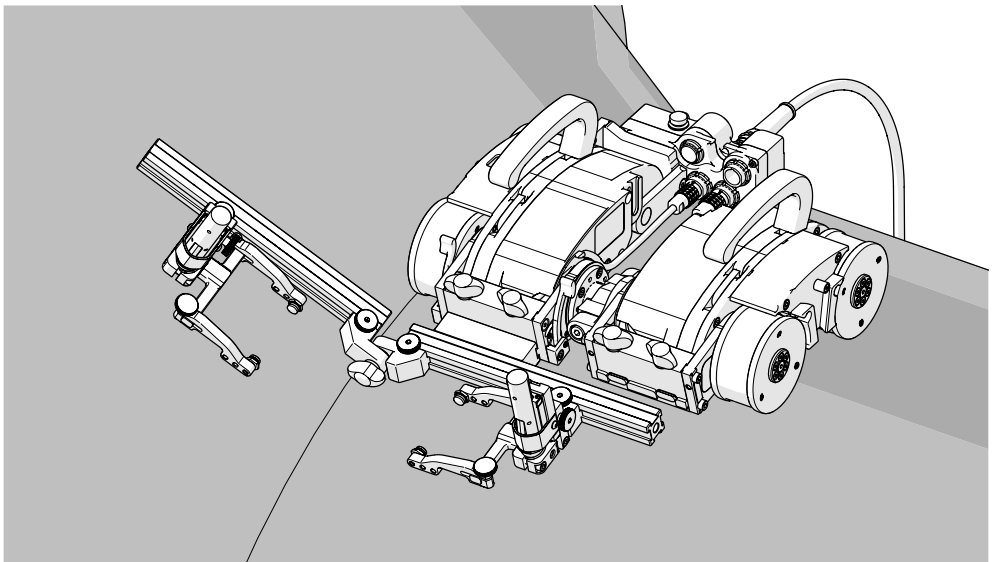

Fig. 252 - Align frame bar with flange scan surface
4. Loosen the pivot wing knob and align the frame bar parallel with the scan surface (*Fig. 252*).